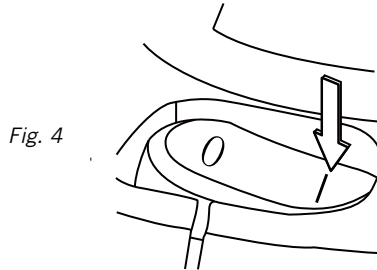

Fig. 4
- Plug the power cord into the outlet. Turn the motor on by flipping the on/off switch **12** to the 'I' ON position and begin vacuuming. **Fig. 4**.